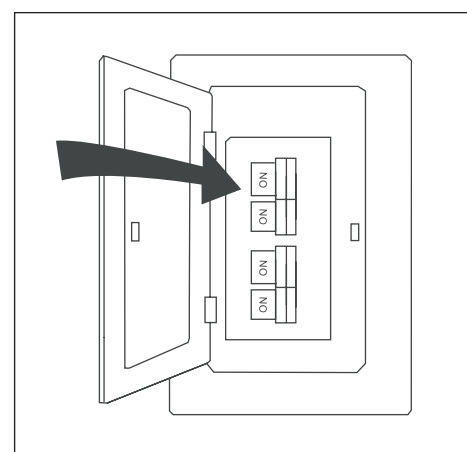

Figure 5.9
9. Turn ON the electrical power at the main fuse or circuit breaker and the wall switch. Assembly is complete (Figure 5.9).